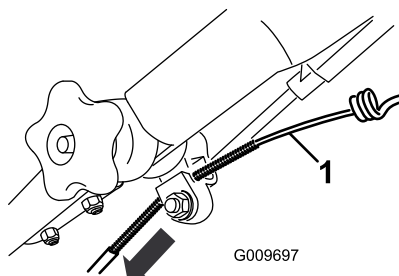

Figure 49
3. Pull the cable jacket downward until you remove the slack in the exposed cable (Figure 49).